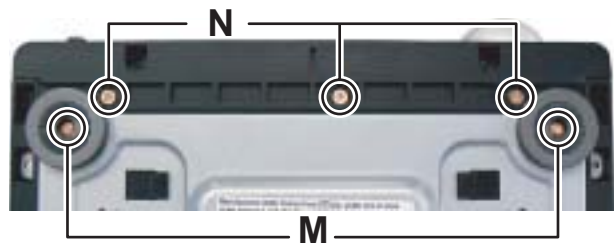

Fig.6
3.1.3 Removing the Front panel (See Fig.6, 7)
- (1) Remove the two screws **M** attaching the Foot. (See Fig.6)
- (2) Remove the three screws **N** attaching the Foot. (See Fig.6)
- (6) Disconnect the card wire from CN101 and CN201 on the DVD module board. (See Fig. 6)